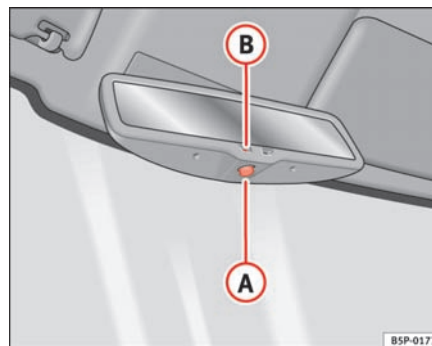

Fig. 63 Automatic anti-dazzle interior mirror.
- Press button (A) ⇒ fig. 63. Warning lamp (B) goes out: ►
- Press button **A** ⇒ page 102, fig. 63. Warning lamp is lit.